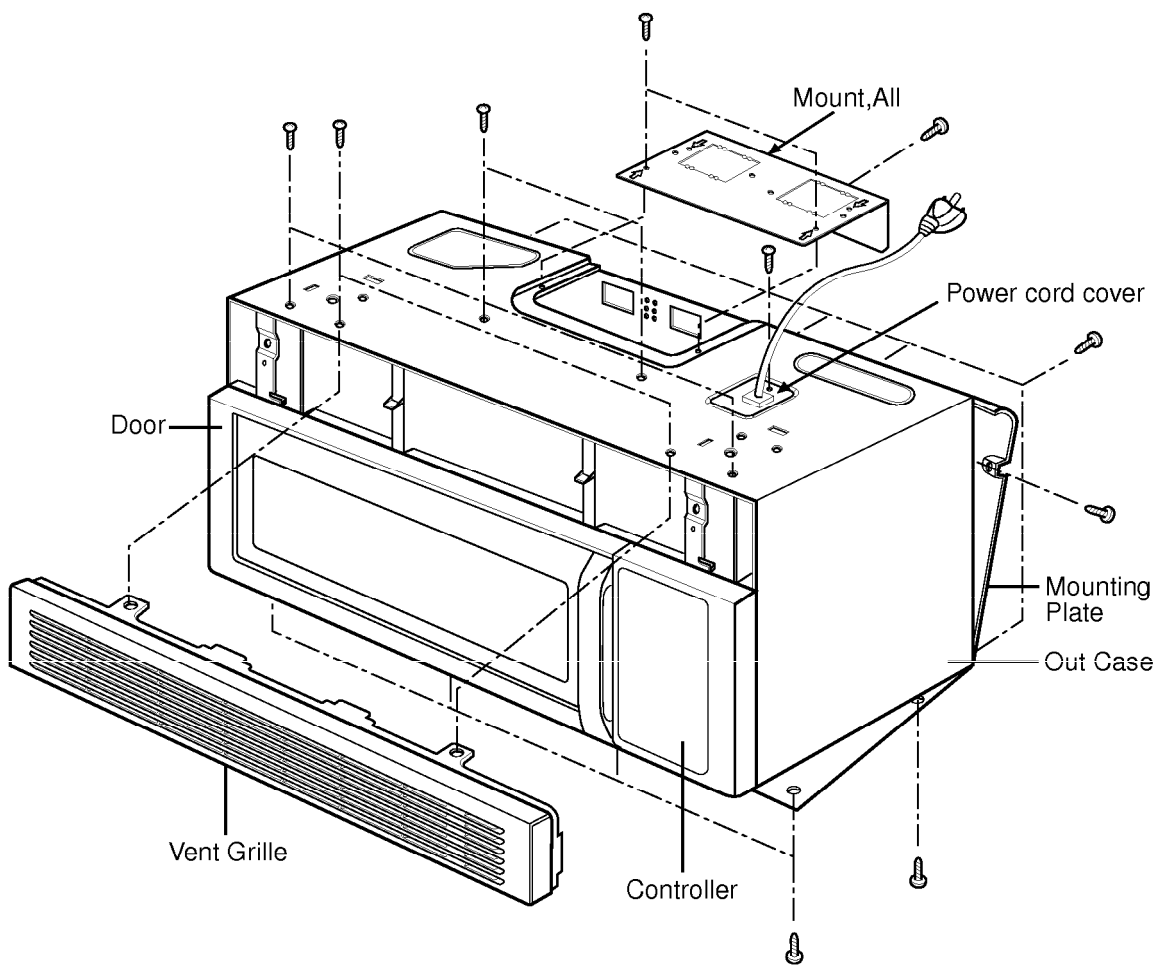

Figure 15
B. REMOVING THE OUT CASE(Figure 15)
- (1) Remove the vent grille by removing two screws securing it to the out case.
- (2) Remove two screws securing it to the front bracket.
- (3) Remove two screws securing it to the air duct.
- (4) Remove the mounting plate by turning the two screws securing it to the out case.
- (5) Remove the base plate by removing six screws securing it to the out case. Remove the Mount, All from the out case by removing two screws securing it to the out case and one screw securing it to the ventilation motor ASS'Y and cavity.
- (6) Remove the power cord cover from outcase by removing a screw.
- (7) Remove the power cord to the inner of the out case with turning power cord and remove the out case with pushing it back.